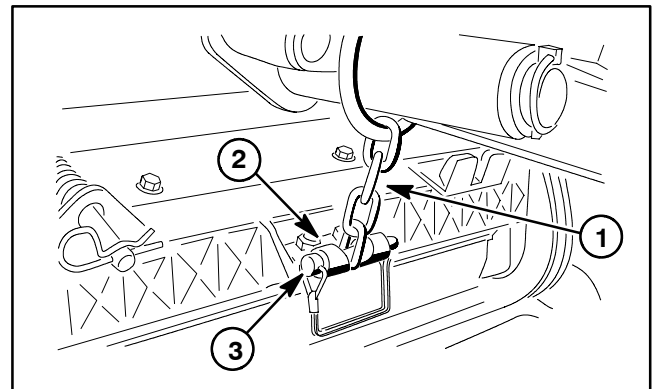

Figure 2
3. For assembly purposes, note location of snapper pin in lift arm chain (Fig. 2). Remove snapper pin from cutting unit chain bracket and lift arm chain.
5. Secure the lift arm chain to the cutting unit chain bracket with the snapper pin (Fig. 2). Use the number of chain links described in the cutting unit Operator's Manual.